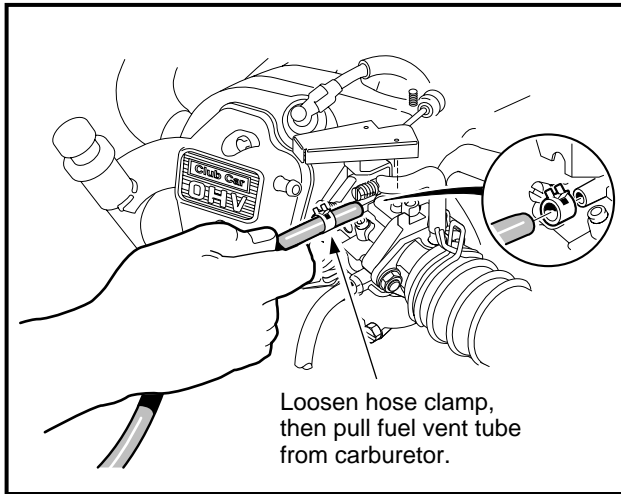

Figure 16-9 Fuel Vent Tube
- 3.1. Disconnect the carburetor vent tube from the carburetor (**Figure 16-9, Page 16-8**).